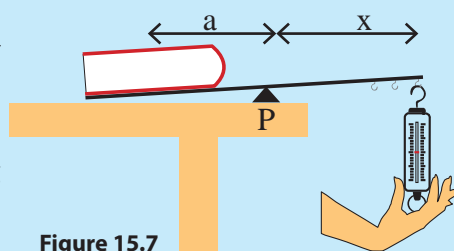

Figure 15.7
- Place the book on the end of the strip as shown in figure 15.7. Couple the Newton balance to the other end of the strip using a book and pull the balance vertically downwards, holding its stem.